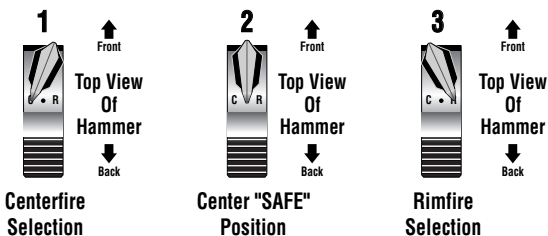
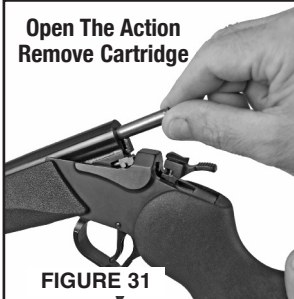

FIG. 30
FIGURE 31
- With the hammer in the “SAFE” position, (FIGURE 30) tip the barrel open and remove the ammunition from the chamber (FIGURE 31 & 32).